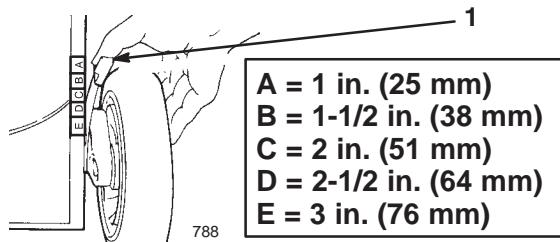

Figure 9
- To change the cutting height, pull the cutting height lever toward the wheel and move it to the desired position (Fig. 9).